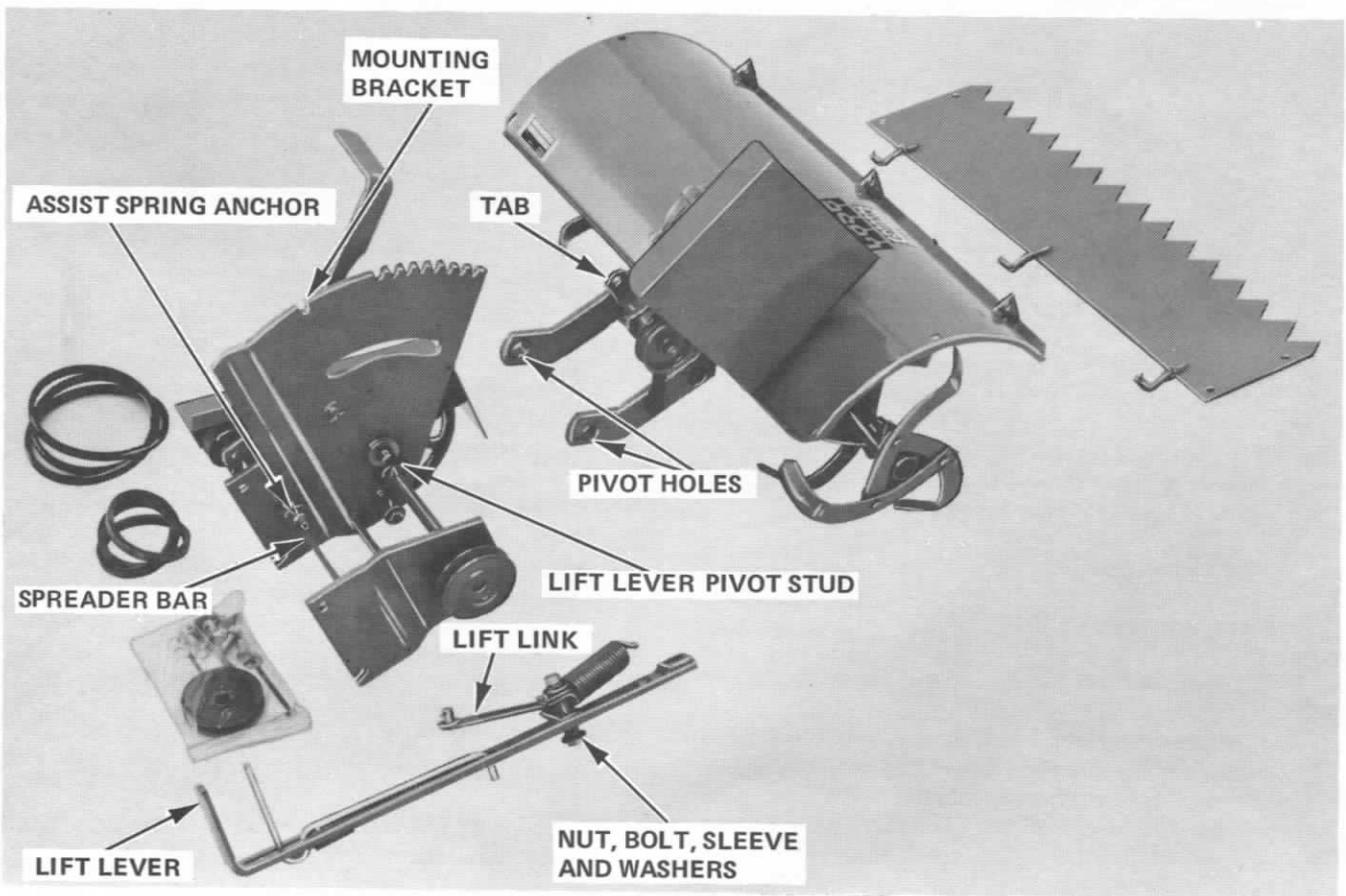

Figure 11
- (a) Move lever fully ahead to hook assist spring in the $\frac{1}{4}$ inch diameter hole in the spreader bar. (See Figure 11.)